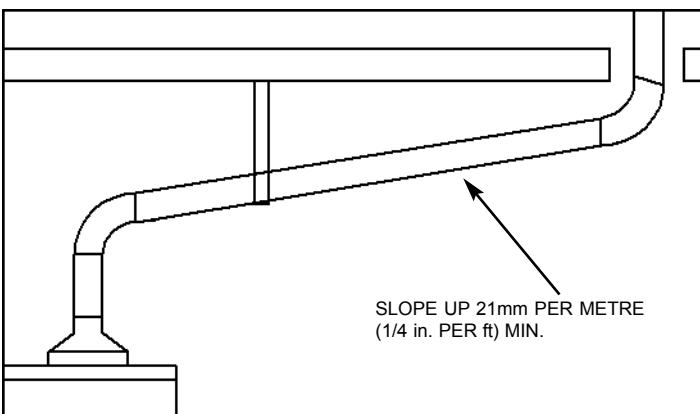

Figure 8 Vent System
**Note:** The horizontal section of the vent must slope up 21mm per metre (1/4 in. per foot), (see Figure 8).
U.L. recognized fuel gas and carbon monoxide (CO) detectors are recommended in all applications and should be installed using the manufacturer’s instructions and local codes, rules or regulations.